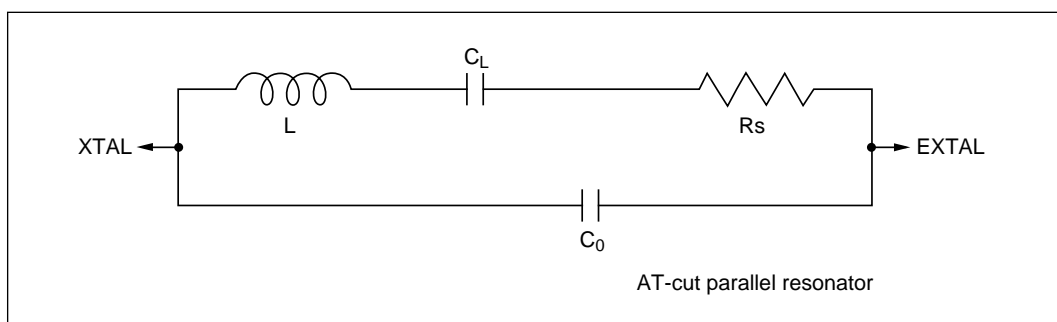

Figure 9-4 Crystal Resonator Equivalent Circuit
(2) Crystal Resonator: Figure 9-4 shows an equivalent circuit of the crystal resonator. The crystal resonator should have the characteristics listed in table 9-2.